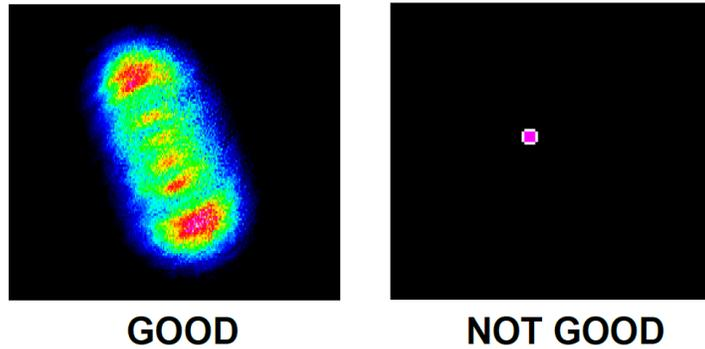

Figure 6.1: The capture block should contain the beam without excessive 'dead' space.
- Next, minimize the 'dead' space around the beam by redefining the Capture Block (See Section 2) to be as small as possible while still fully capturing the beam (Fig. 6.1). If this is not done, a residual un-subtracted integrated image background may be a significant percentage of the pulsed signal, and may compromise correct capture and analysis. (The software automatically subtracts the baseline value, based upon the lowest signal level in the capture region.)